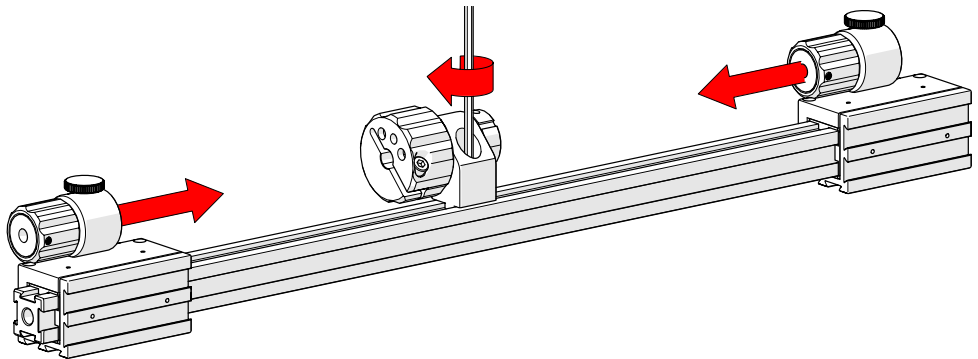

Fig. 128 - Attach slide assemblies and tighten lock screw
3. Tighten the lock screw on the main knob bracket (Fig. 128). Ease the two sliders onto either end of the frame bar and push the sliders to the desired position on the frame bar (Fig. 128). The slider's friction fit require an appropriate level of force to position the sliders.